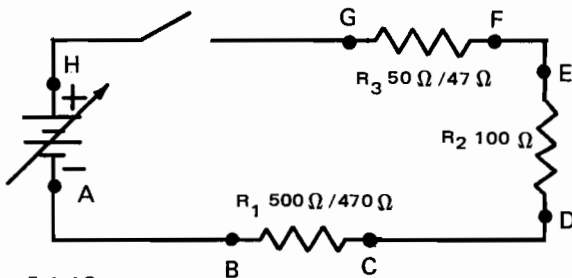

Fig. 5-1-1C
- Construct series circuit as in Fig. 5-1-1C.